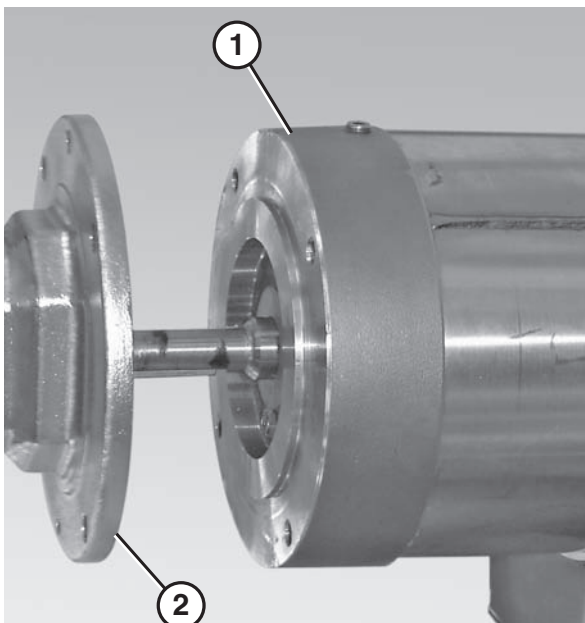

Figure 61
7. Disconnect the motor (Figure 61, item 1) from the gear reducer (Figure 61, item 2).